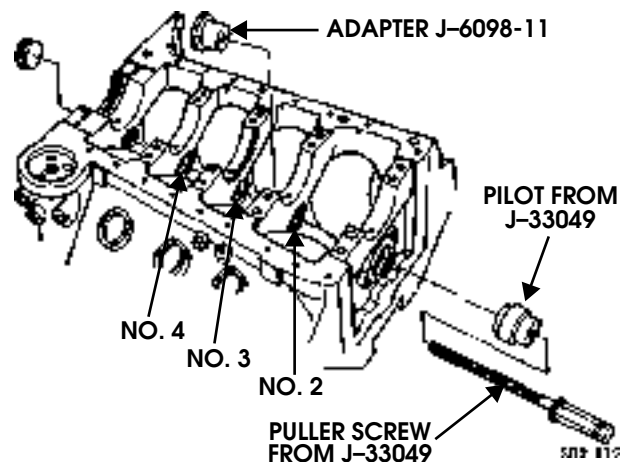

Figure 2-109: Removing Cam Bearings 2, 3, and 4
1. Remove camshaft plug at rear of block (Figure 2-109). Use long wood dowel or pipe tool and hammer to tap plug out rear of block. Discard plug afterward. It is not reusable.
- a. Insert pilot from tool set J-33049 in No. 1 bearing (Figure 2-109).